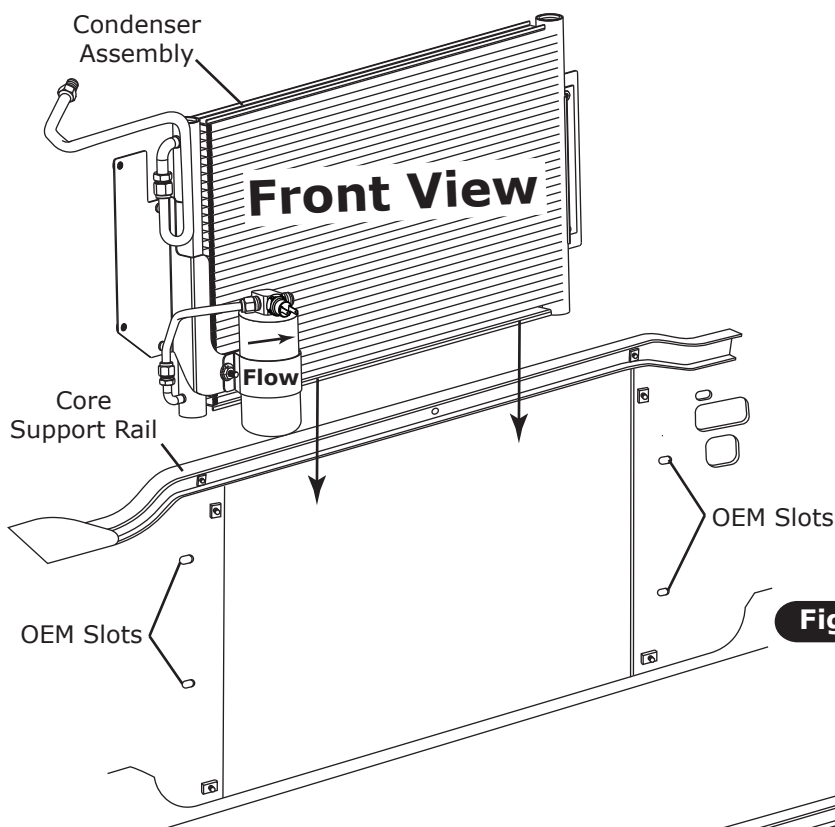

Figure 7
1. Install the condenser assembly in front of the core support as shown in Figure 7, below. **NOTE: In order to clear the electric headlight motors when lowering the condenser into the vehicle, the following steps are required:**